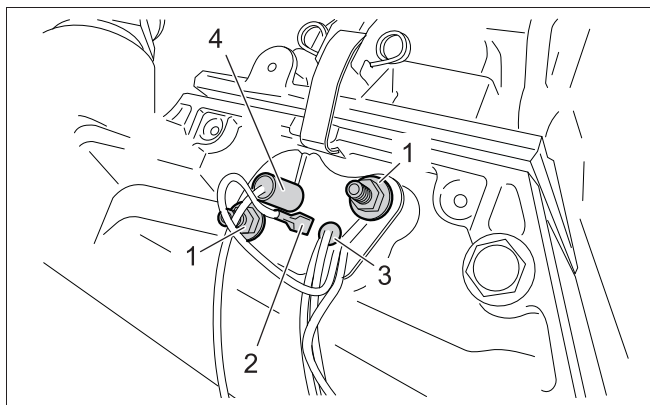

Fig. 43 Removing the hot surface ignitor and the ionization electrode
- Loosen the fastening nuts (see fig. 43, pos. 1).
- Remove the earth cable (see fig. 43, pos. 2).
- Pull the hot surface ignitor (see fig. 43, pos. 3) and the ionization electrode (see fig. 43, pos. 4) out of the heat exchanger.